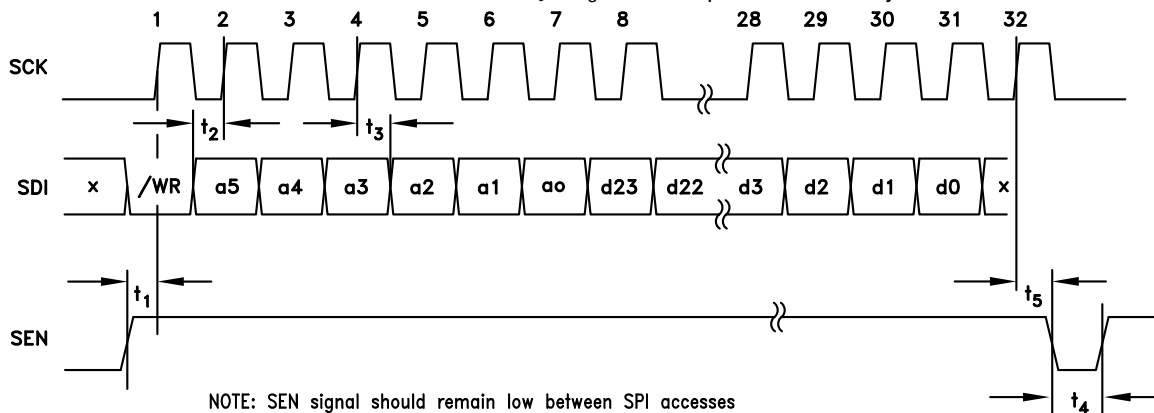
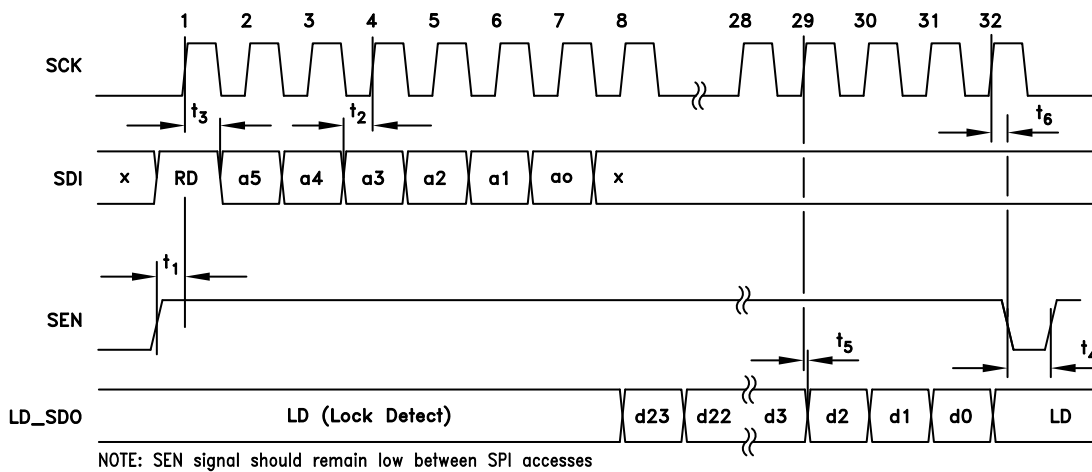

Figure 45. HMC Mode - Serial Port Timing Diagram - WRITE
Figure 46. HMC Mode - Serial Port Timing Diagram - READ
The HMC Mode protocol, shown in figures Figure 45 and Figure 46, is designed for a 4 wire interface with a fixed protocol featuring
A typical HMC Mode WRITE cycle is shown in Figure 45.
A typical HMC Mode READ cycle is shown in Figure 46.
- a. The Master (host) asserts both SEN (Serial Port Enable) and SDI to indicate a READ cycle, followed by a rising edge SCLK. Note: The Lock Detect (LD) function is usually multiplexed onto the LD\_SDO pin. It is suggested that LD only be considered valid when SEN is low. In fact LD will not toggle until the first active data bit toggles on LD\_SDO, and will be restored immediately after the trailing edge of the LSB of serial data out as shown in Figure 46.
- b. The slave (HMC834LP6GE) reads SDI on the 1st rising edge of SCLK after SEN. SDI high initiates the READ cycle (RD)